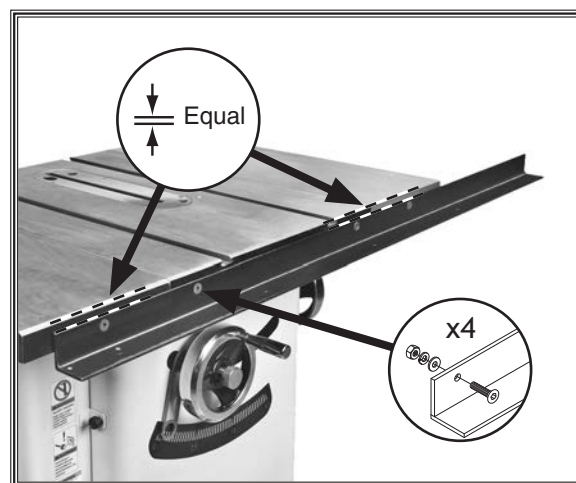

Figure 17. Front rail attached parallel with the table top.
9. Attach the front rail to the table and extension wings with (4) M8-1.25 x 35 flat head screws, 8mm flat washers, 8mm lock washers, and M8-1.25 hex nuts, as shown in **Figure 17**.